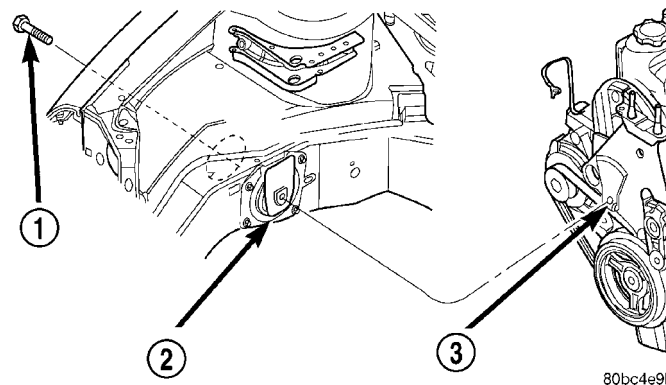
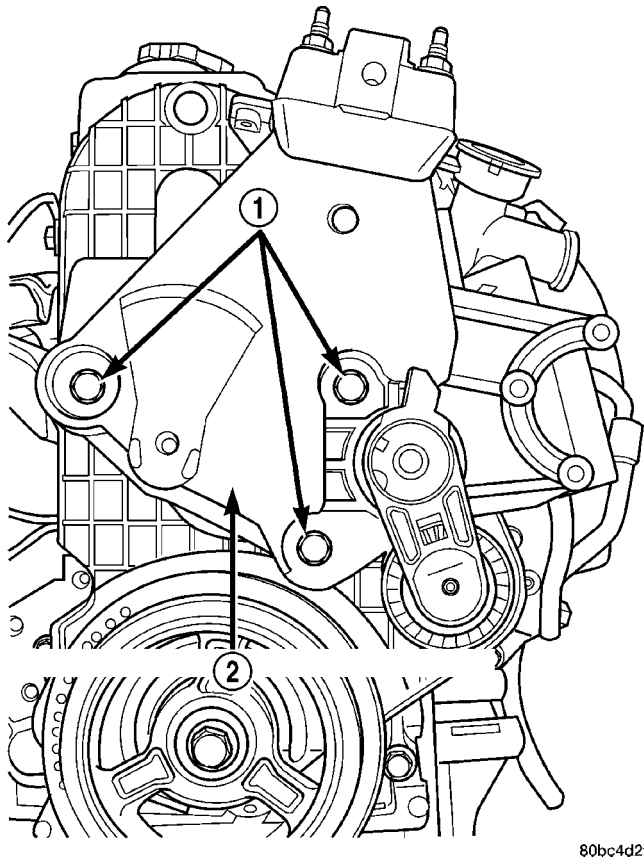

Fig. 151 Right Engine Mount to Bracket
Fig. 152 Engine Mount Bracket
- (2) Remove fastener securing ground strap to engine mount bracket.
- (3) Remove upper torque strut (Refer to 9 - ENGINE/ENGINE MOUNTING/TORQUE STRUT - REMOVAL).
- (4) Remove power steering/air conditioning compressor drive belt (Refer to 7 - COOLING/ACCESSORY DRIVE/DRIVE BELTS - REMOVAL).
- (5) Raise vehicle on hoist.
- (6) Remove accessory drive belt splash shield.
- (7) Remove generator drive belt (Refer to 7 - COOLING/ACCESSORY DRIVE/DRIVE BELTS - REMOVAL).
- (8) Remove crankshaft damper (Refer to 9 - ENGINE/ENGINE BLOCK/VIBRATION DAMPER - REMOVAL).
- (9) Remove lower torque strut (Refer to 9 - ENGINE/ENGINE MOUNTING/TORQUE STRUT - REMOVAL).
- (10) Lower vehicle.
- (11) Position a jack under engine. Raise jack enough to support engine weight.
- (12) Remove right engine mount to engine mount bracket through bolt (Fig. 151).
- (13) Lower engine enough with jack to remove lower engine mount bracket bolt (Fig. 152).
- (14) Raise engine with jack to allow engine-to-body clearance for engine mount bracket removal.
- (15) Remove power steering pump assembly and set aside. **Do Not** disconnect lines from pump.
(16) Remove the two remaining bolts securing engine mount bracket to engine. Remove engine mount bracket (Fig. 152).
- (2) Position engine mount bracket to its mounting location. Hand start the upper two bolts of the engine mount bracket (Fig. 152).
- (3) Lower engine with jack.
- (4) Install lower engine mount bracket bolt. Tighten bolt to 61 N·m (45 ft. lbs.) (Fig. 152).
- (5) Raise engine with jack.
- (6) Tighten upper engine mount bracket bolts to 61 N·m (45 ft. lbs.) (Fig. 152).
- (7) Install power steering pump assembly.
- (8) Lower engine with jack.
- (9) Install right engine mount to engine mount bracket through bolt. Tighten bolt to 118 N·m (87 ft. lbs.) (Fig. 151).
- (10) Remove jack from under engine.
- (11) Raise vehicle on hoist.
- (12) Install lower torque strut (Refer to 9 - ENGINE/ENGINE MOUNTING/TORQUE STRUT - INSTALLATION).
- (13) Install crankshaft damper (Refer to 9 - ENGINE/ENGINE BLOCK/VIBRATION DAMPER - INSTALLATION).
- (14) Install accessory drive belts (Refer to 7 - COOLING/ACCESSORY DRIVE/DRIVE BELTS - INSTALLATION).
- (15) Install accessory drive belt splash shield.
- (16) Lower vehicle.